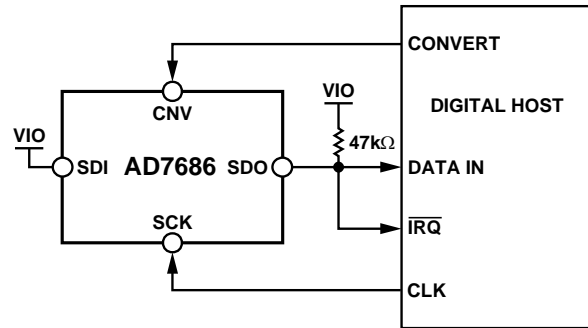
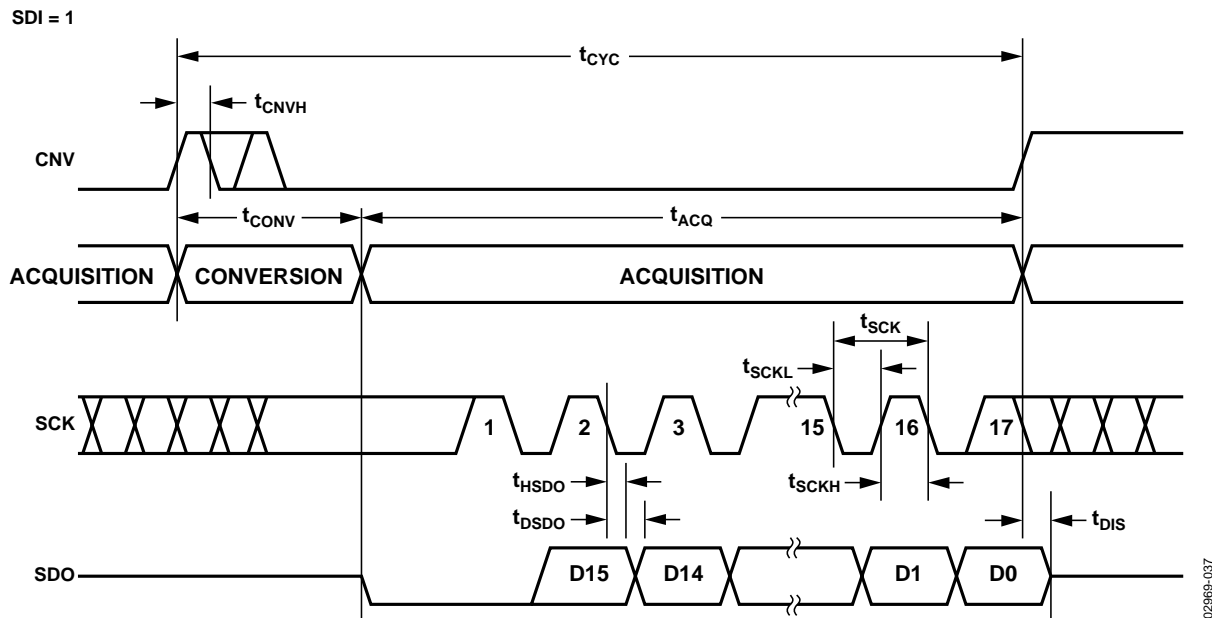
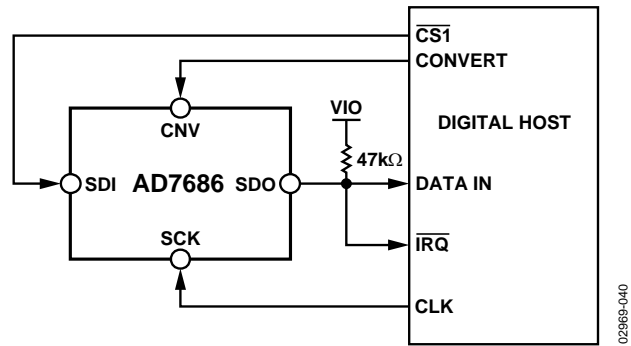
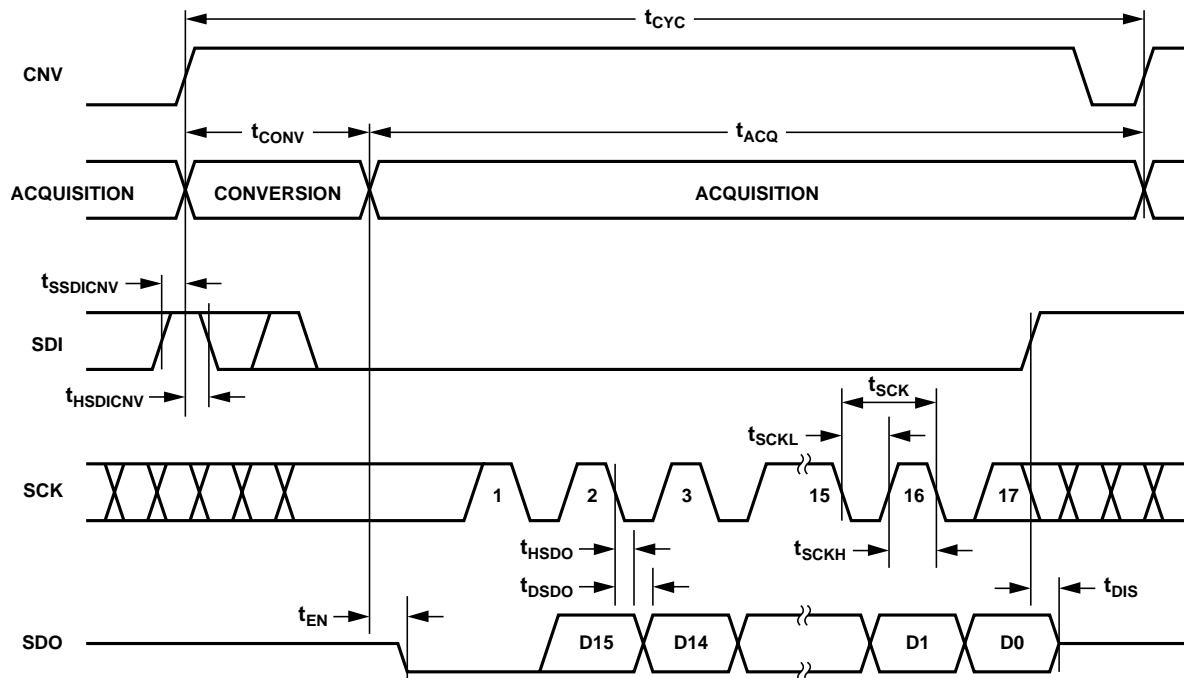

Figure 35. $\overline{\text{CS}}$ Mode 3-Wire with BUSY Indicator Connection Diagram (SDI High)
Figure 36. $\overline{\text{CS}}$ Mode 3-Wire with BUSY Indicator Serial Interface Timing (SDI High)
Figure 39. $\overline{\text{CS}}$ Mode 4-Wire with BUSY Indicator Connection Diagram
Figure 40. $\overline{\text{CS}}$ Mode 4-Wire with BUSY Indicator Serial Interface Timing
- In the \overline{CS} mode, if CNV or SDI is low when the ADC conversion ends (Figure 36 and Figure 40).
The connection diagram is shown in Figure 35 and the corresponding timing is given in Figure 36.
The connection diagram is shown in Figure 39 and the corresponding timing is given in Figure 40.